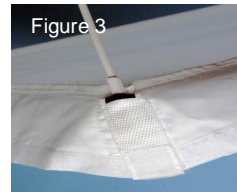

Figure 3
Step 3. Now locate the pockets on each corner of the Front Diffuser Panel (pockets are located on side with thin velcro trim). Insert a Frame Rod into one of the corner pockets (Figure 3).